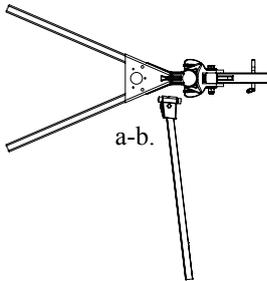

Figure 11a
- a. Hold the spring arm sideways at a 90 degree angle to the hitch head; parallel to the tow vehicle bumper - see *Figure 11a*.